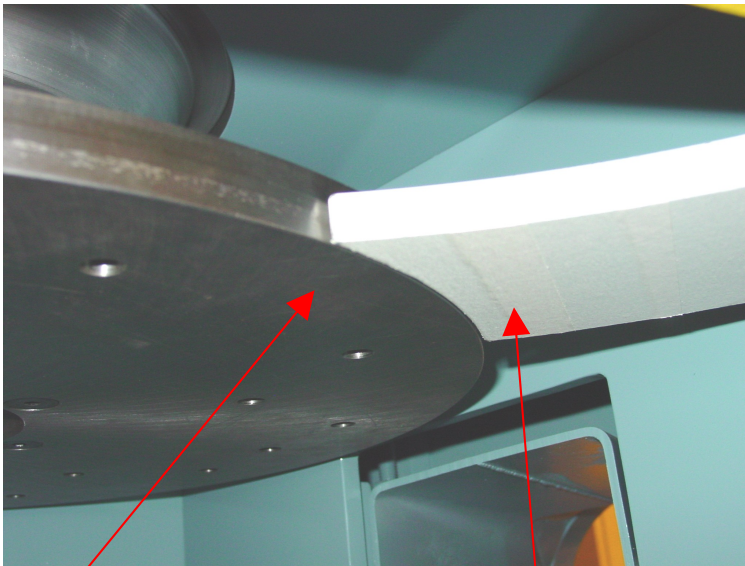

Figure 25
2. Entry and Exit Hold downs (Figure 8 on page 8 and Figure 25 on page 17)